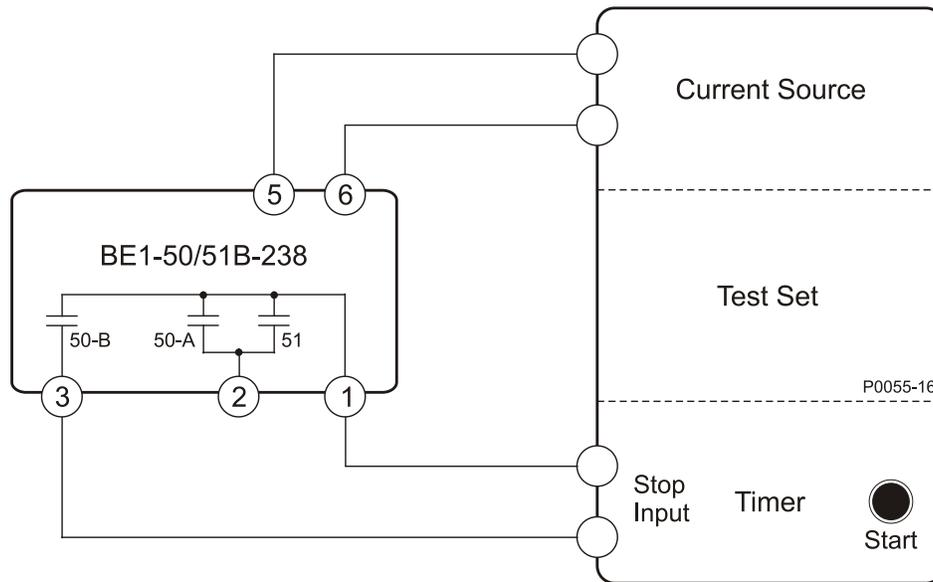

Figure 5-5. 50-B Pickup Test Setup
- a. Connect the test setup shown in Figure 5-5.